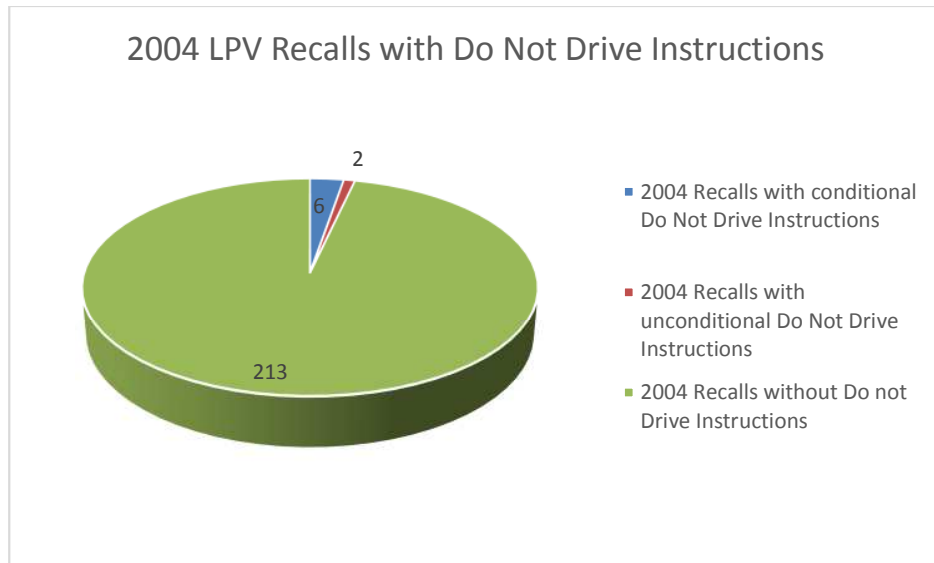

Figure 10. 2004 LPV Recalls with Do Not Drive Instructions
Eight (8) of the two hundred twenty one (221) 2004 LPV recalls contained DND instructions. Five (6) of those DND instructions were conditional upon owner detection of a defect. Two (2) recalls had an unconditional “do not drive” vehicle recommendation. In the graph in figure10 these two recalls are counted and categorized as recalls with “unconditional” DND instructions. For the text detailing the DND instructions for the 2004 LPV recalls see Appendix A-10.